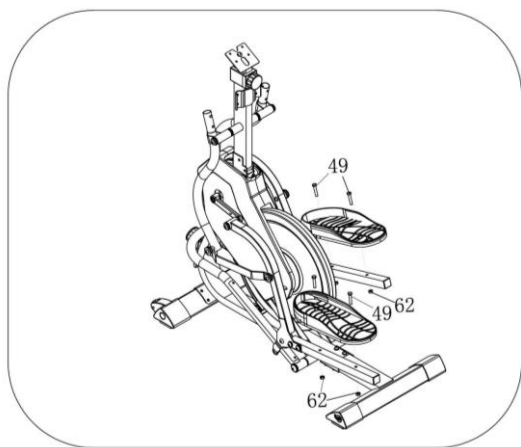

Figure 6
1. Put Left Pedal (16) and 2pcs Bolt (49) onto the Pedal Tube. Use Wrench (93) and lock the Left Pedal Frame by 2pcs Nut (62).
2. Put Right Pedal (17) and 2pcs Bolt (49) onto the Right Pedal Tube. Use Wrench (93) and lock the Right Pedal Frame by 2pcs Nut (62), as shown in Figure 6.